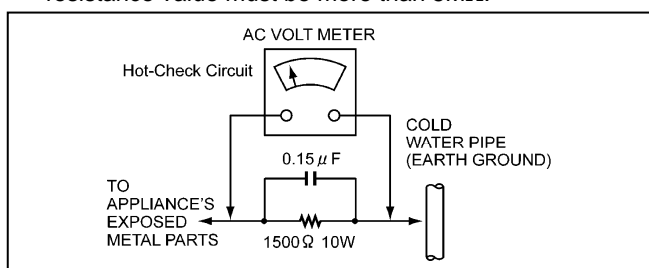

Figure1
## LEAKAGE CURRENT HOT CHECK (See Figure 1)
2. Connect a 1.5KΩ, 10W resistor, in parallel with a 0.15μ F capacitor, between each exposed metallic part on the set and a good earth ground such as a water pipe, as shown in Figure1.